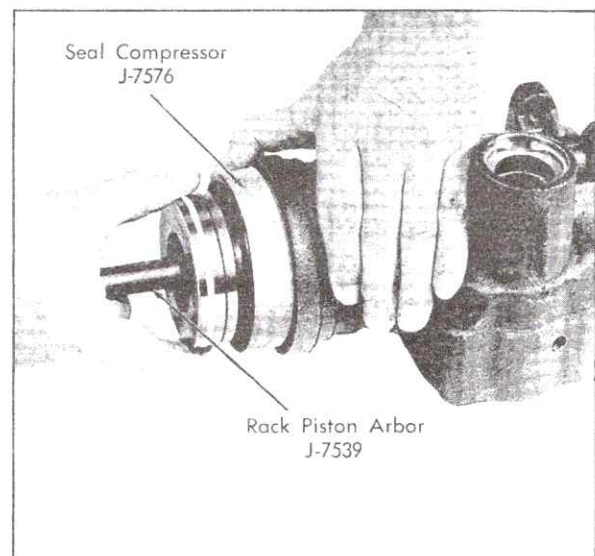

Fig. 9-36 Installing Rack-Piston Seal Compressor
9. Install Rack-Piston Seal Compressor, J-7576, in gear housing, Fig. 9-36, holding it tightly against shoulder in housing.